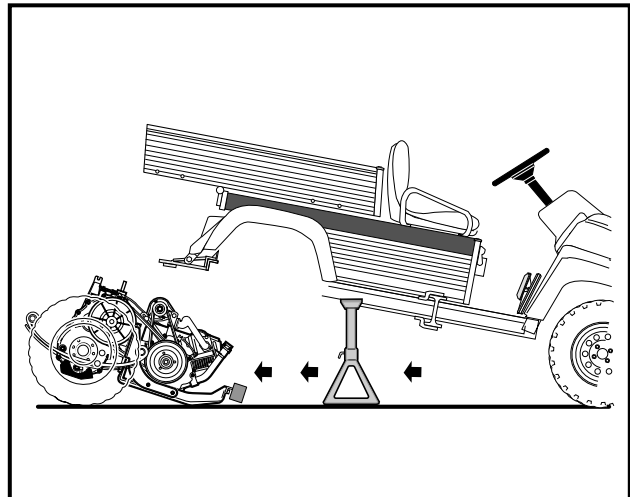

Figure 16a-31 Remove Powertrain
18. Loosen, but do not remove, the governor arm retaining bolt. Remove the governor arm from the shaft (**Figure 16a-35, Page 16a-17**).